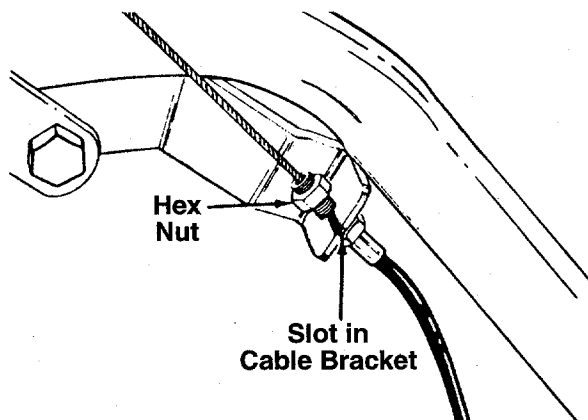

FIGURE 4.
2. Slip the wire through the slot on the cable bracket on the left handle. Push the end of the casing up through the cable bracket. Rethread the hex nut on the end of the cable casing, four turns. Do not tighten at this time. See figure 4.